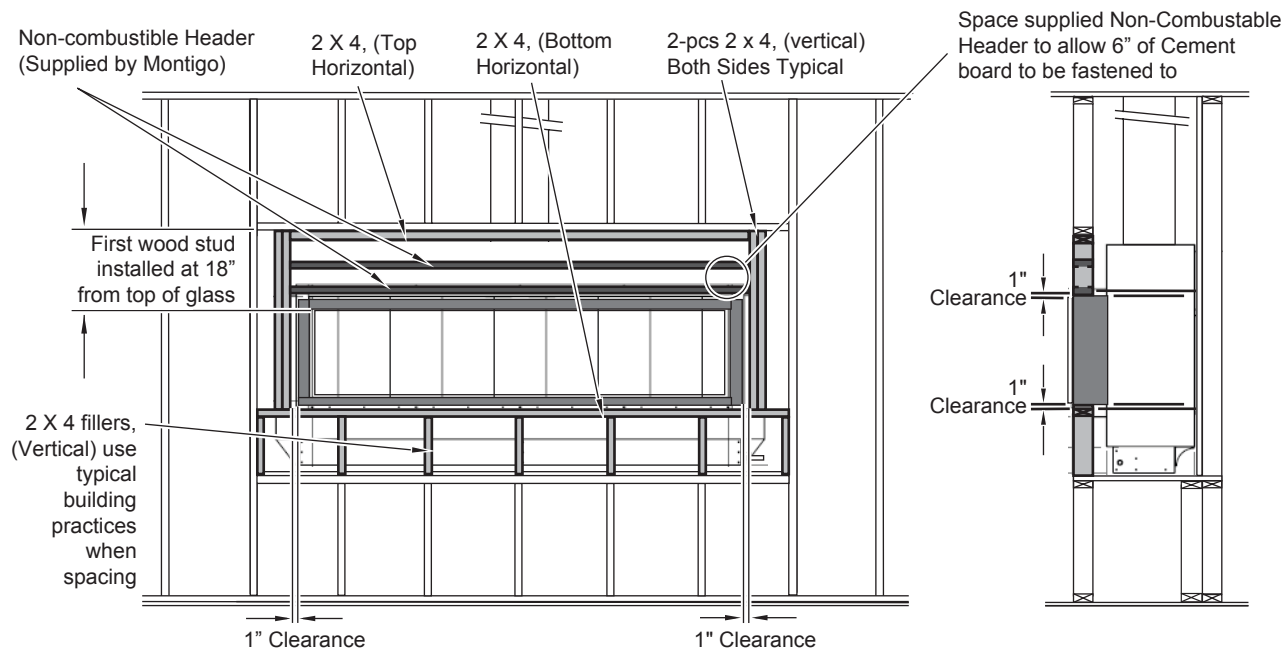
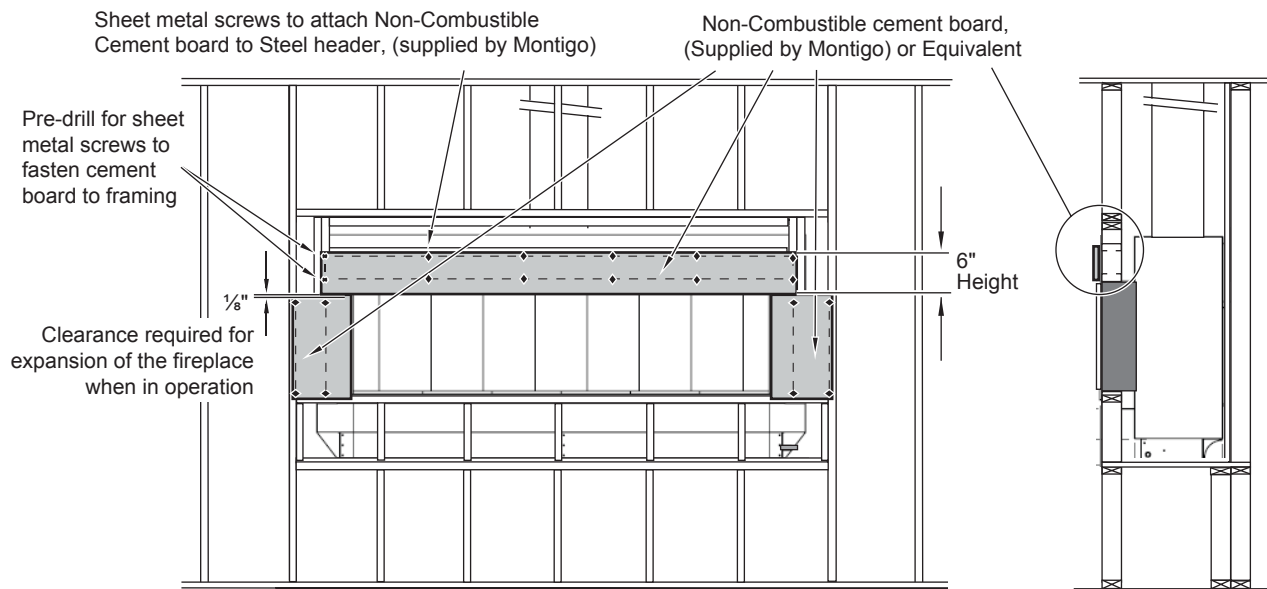

Figure 2b. Fireplace installation, (Ensure you maintain the 1" clearance to combustibles) Both Sides are Typical.
Figure 2c. Non-combustible Board over the Fireplace, (supplied by Montigo) Both Sides are Typical.
throat, (horizontal), fit & remove. Next, cut the short 2 x 4's, to fit at each end under the previous Horizontals'. (Note: when these pieces are secured into place there should be the required 1" clearance to combustibles), Figure 2b.
Cut the Upper and Lower Horizontal 2 x 4's in accordance with Figure 2b. Next, cut the Required quantity of short filler 2x4's under the lower Horizontal. The number of pieces will be determined by the length, and model of fireplace. (Follow Typical building codes and practices when spacing).
Next, cut the Required Left and Right Vertical 2 x 4's in accordance with Figure 2b.
**Step 4.** As shown in Figure 2c; Cut a sheet of Non-combustible Concrete Board to overlap the new 2 x 4's and Non-combustible Header (front & rear face) See Figure 2b. Place the Non-combustible wall board above the fireplace
As shown in Figure 2c; Pre-drill the Non-combustible Cement Board with an 1/8" drill, secure to framing with